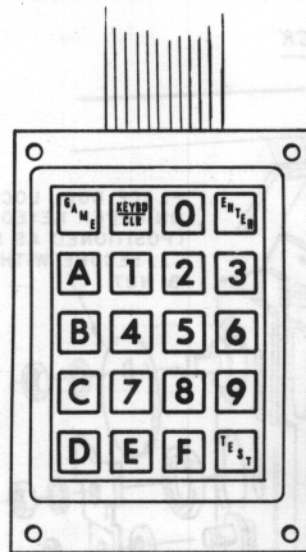

Fig. 5
3. Take the machine's meter readings for your records. Turn the key switch on the right side of the machine (see Fig. 5), the Bookkeeping Meters appear on the screen. See Section 3, MACHINE OPERATIONS under Bookkeeping Meters in your Operator Instructions Manual.